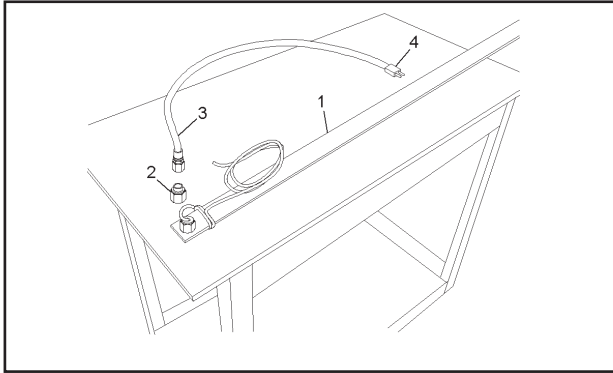

FIGURE 3-13
An element assembly consists of four main components. The element (1), the wire protector adapter (2), the wire protector (3), and the two pin wire plug (4) at the end of the element protector (See Fig. 3-13).